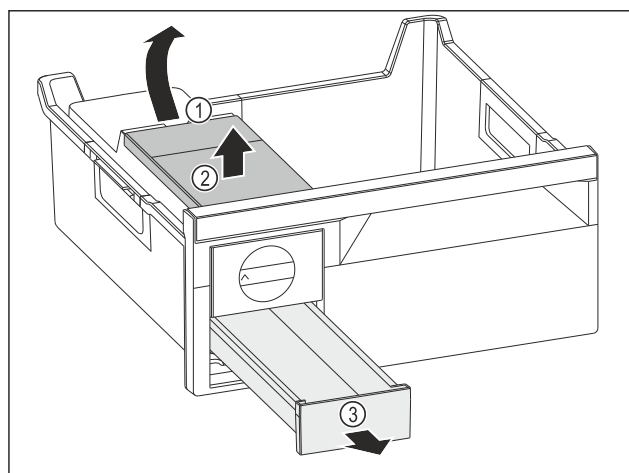

Fig. 77
- Removing the water tank: Lift the water tank by the recess Fig. 77 (1).
- Remove the water tank Fig. 77 (2) upwards.
- Remove the ice cube drawer Fig. 77 (3) to the front.